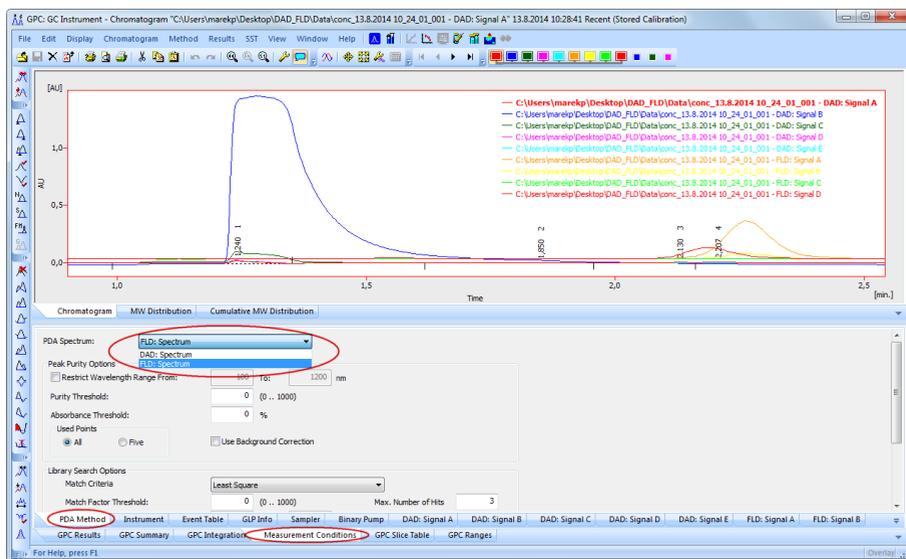

Fig 7: Chromatogram window - Selecting PDA Spectrum
- Option for multiple spectral detectors has been implemented in the method setup. **Chromatogram** window copies the settings from the method setup and displays them under the *Measurement Conditions* tab - *PDA Method* tab. Selection of the appropriate detector is done via the drop down list as displayed by **Fig 7** on pg 8. Note that chosen spectrum is used in the method and for further calculations.